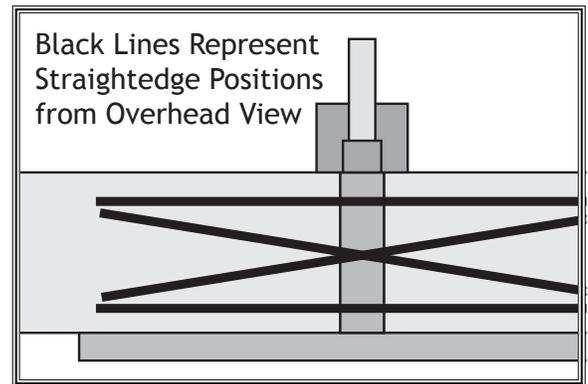

Figure 41. Straightedge positions for checking infeed/outfeed table parallelism.
4. Place straightedge in the positions shown in **Figure 41**. In each position, straightedge should sit flat against both outfeed table and infeed table.